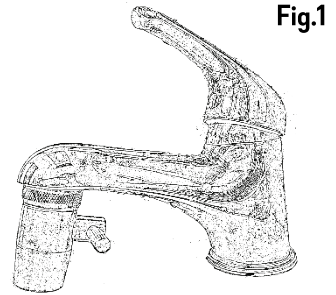

Fig.1
1. Turn on the tap. **(Fig. 1)**